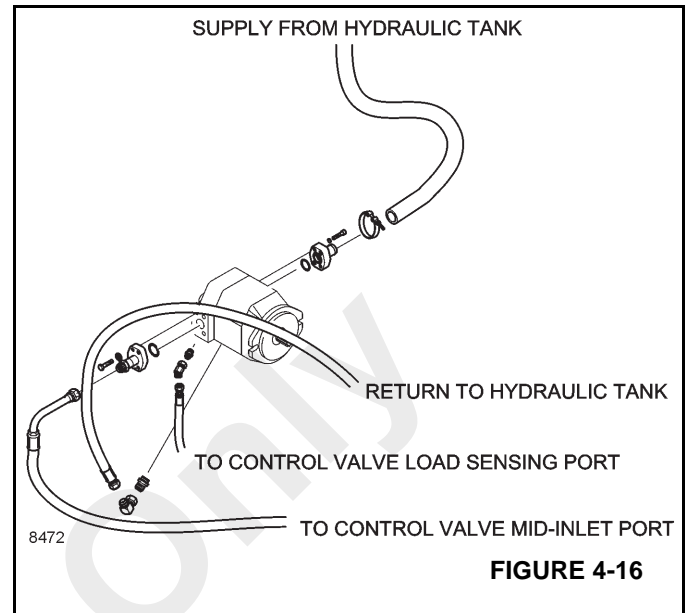

FIGURE 4-16
4. Disconnect the suction line and pressure line from the primary pump (Figure 4-16). Disconnect the load sense and drain lines from the pump. Cap and plug all hoses and ports.